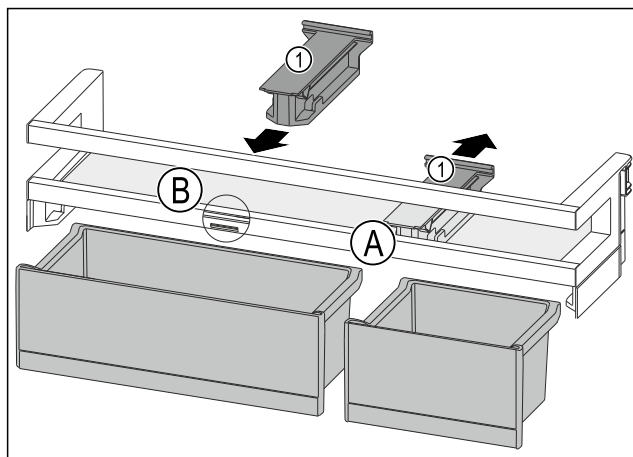

Fig. 122
- Take off the holding part Fig. 122 (1) in position Fig. 122 (A) backwards.
- Insert the holding part Fig. 122 (1) in position Fig. 122 (B).